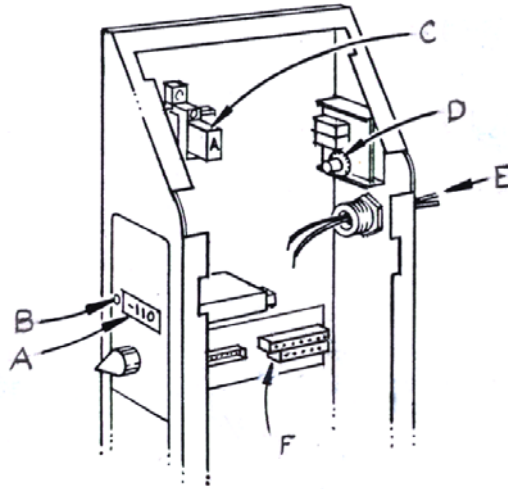
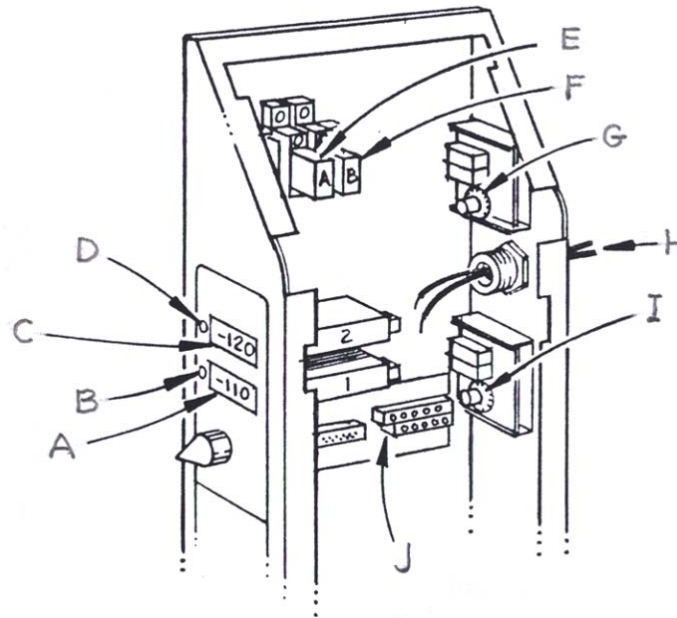

Figure 11-9: Temperature module options – parts identification for option 600212-02
Figure 11-11: Temperature module options – parts identification for option 600212-04
- See Figure 11-9 for identification of options.
- C. Option 600212-04: Second temperature meter & two setpoint indications, see Figure 11-11.
Check the operation of the setpoint relay(s) every year if running at less than the recommended minimum current. See Figure 11-9 through Figure 11-11. If it is necessary to replace a relay, refer to the following part numbers.